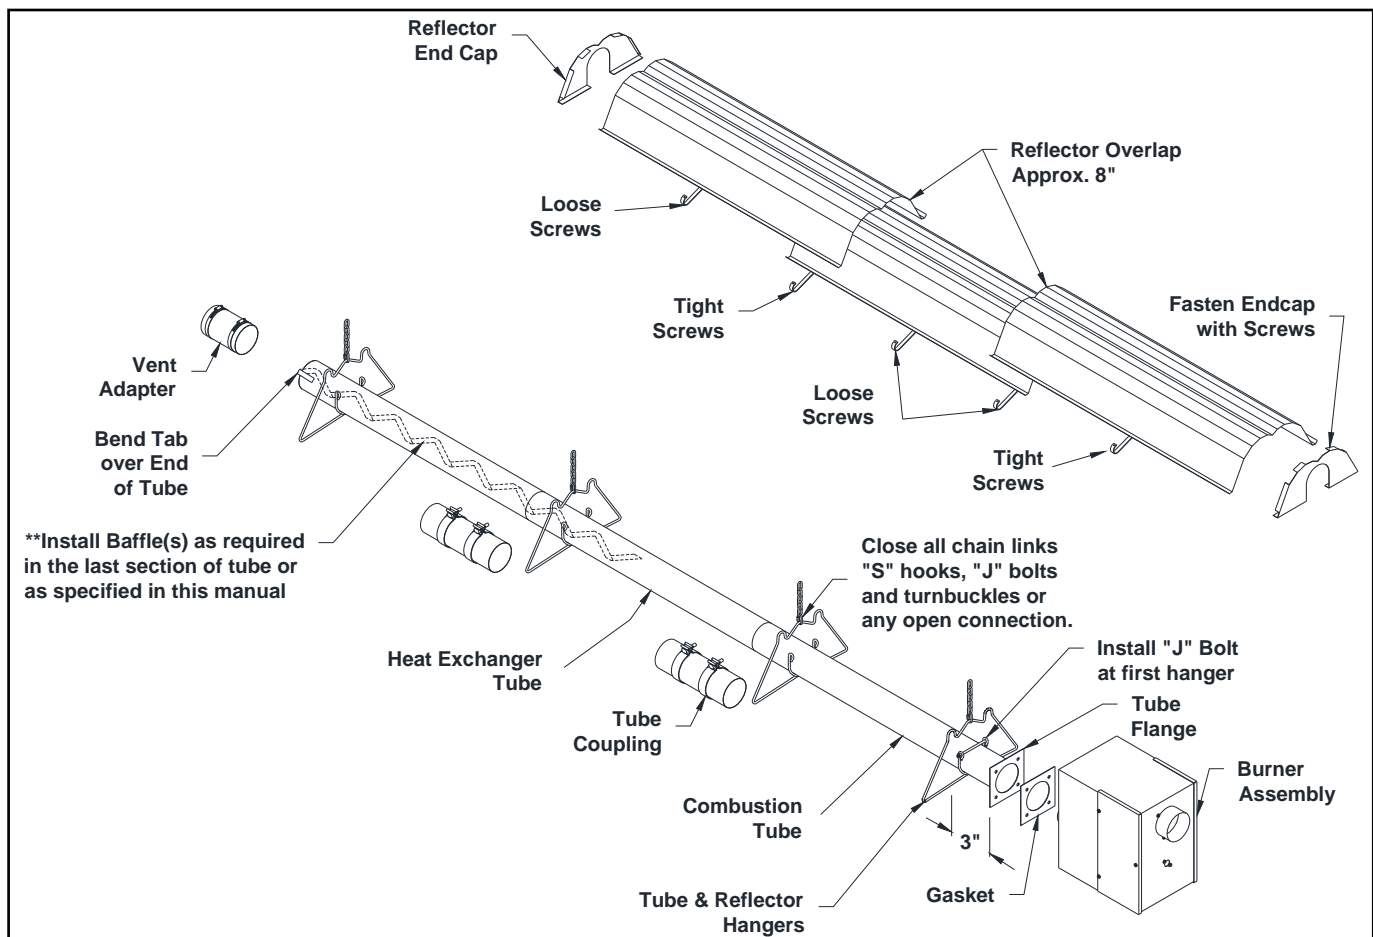
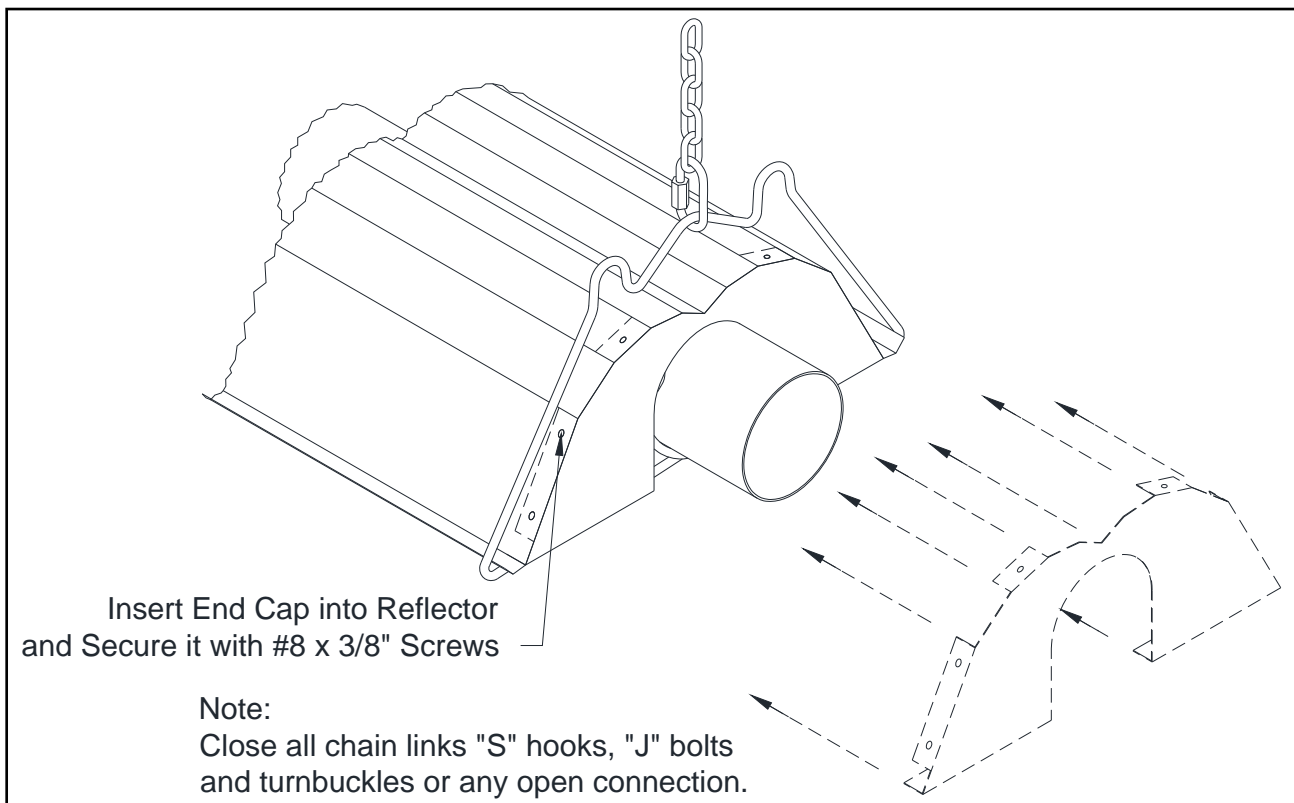

Figure 4: General Overview of Installation
Figure 17: Reflector End Cap Installation
Generally, there is no unique sequence for installation of the burner or heat exchanger. A review of the job site will usually indicate a logical installation order. However, time and expense can be saved if installation is begun at the most critical dimension, watching for interference from overhead doors, cranes, auto lifts etc. Figure 4 provides a general overview of the components utilized in the installation, as well as their general relationship.
- Install End Cap as shown in Figure 4 and Figure 17.